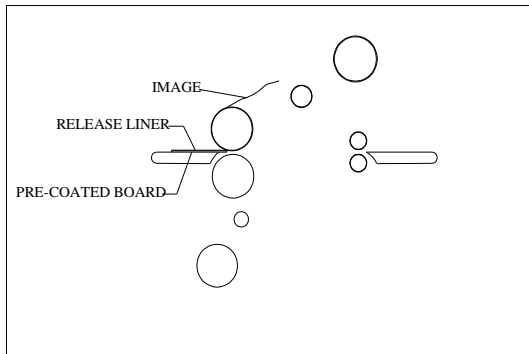

Fig. 16
3. Do not stop once you have started the mounting process through the machine. (Fig. 16)